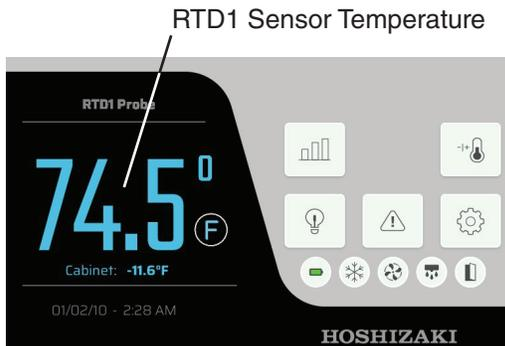

Fig. 8
- a) Press and release the center of the RTD1 probe temperature display. The touchscreen setup view is shown. See Fig. 8.